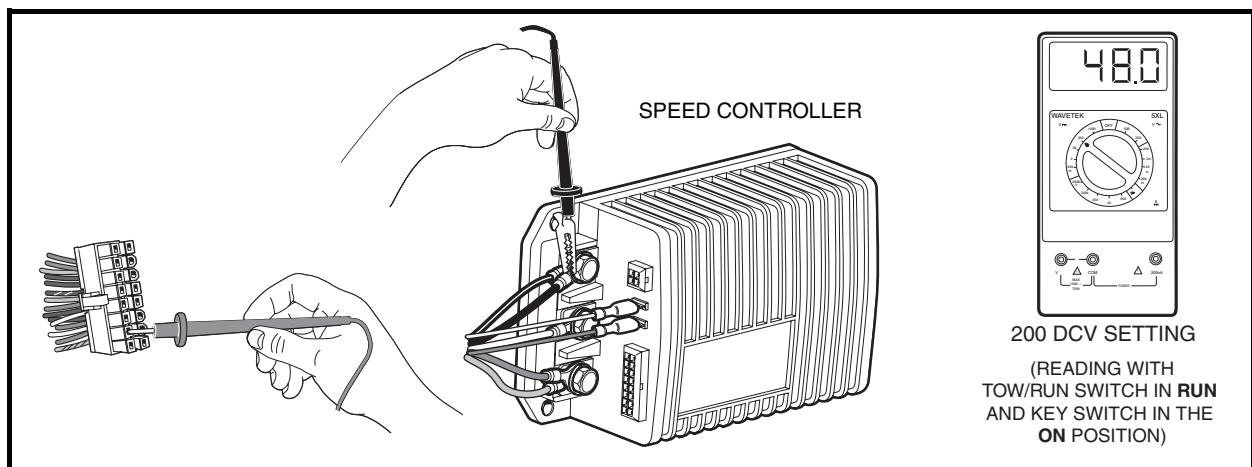

Figure 11-20 Pin 10 Test
4. With a multimeter set for 200 volts DC, insert the red (+) probe of the multimeter into pin 10 (tan wire) of the 16-pin connector. **See following CAUTION.** With an alligator clip, connect the black (–) probe to the B– terminal of the speed controller (**Figure 11-20, Page 11-34**).